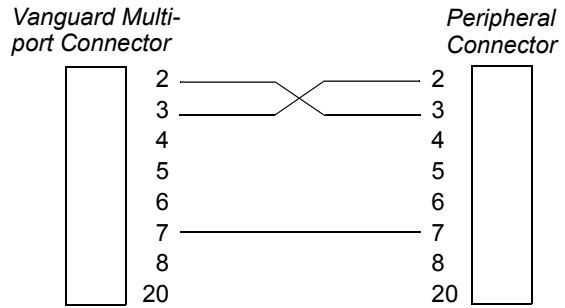

FIGURE 8. Asynchronous Null Modem Cable (XON/XOFF Handshaking)
- XON/XOFF supports software flow control only, with its three-wire configuration for XON/XOFF handshaking (see Figure 8).